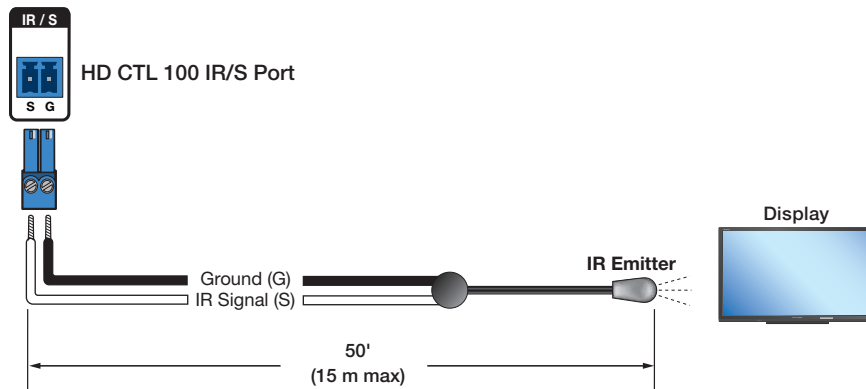

Figure 2. IR Emitters for the HD CTL 100
- **For IR control** — Connect one or two single IR emitters or one dual IR emitter to the S and G pins of the IR/S connector (F), with a maximum of 50 feet (15 m) from port to emitter. The port provides unidirectional IR signal output to control a display, projector, switcher, or other device. Figure 2 shows a single IR emitter connected to the IR/S port of an HD CTL 100.